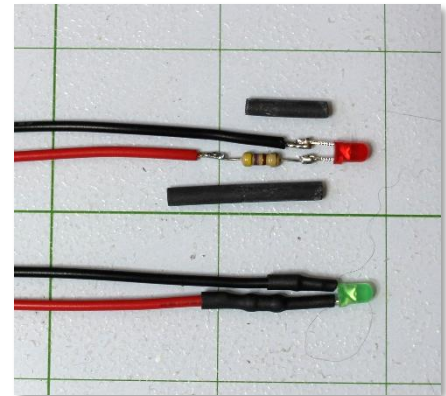

Figure 8
The last items we need to pre-wire are the two LED. First cut (4) 4-inch 22AWG wires, 2 reds and 2 blacks. You'll also need (2) 470 ohms resistors for this step. First cut both sides of your resistor to $\frac{1}{4}$ inch lengths. Also cut the leads of the positive anode sides of your LED's to $\frac{1}{4}$ inch. Solder one side of your resistors to the red wires, then solder the other side of your resistors to the anode positive side of your LED's. Next, cut the negative cathode side of your LED's leads to $\frac{1}{4}$ inch. Then solder the black wires to the LED negative cathodes. Finally, slip shrink tubing over both wires making sure to cover the entire resistor on the red wire as shown in figure 8. Once you have fully assembled your LED, we highly recommend you test them by applying 5 volts DC to confirm they are working correctly as we will be epoxying them onto the project case in a later step.